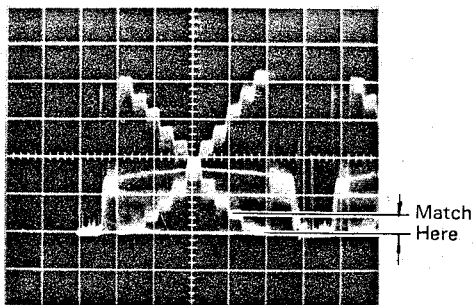

Fig. 6-4-34
- Adjust YL PEDESTAL VR306 so that the YL signal matches the B signal in the 0~2nd step of gray scale waveform. (Fig. 6-4-34)